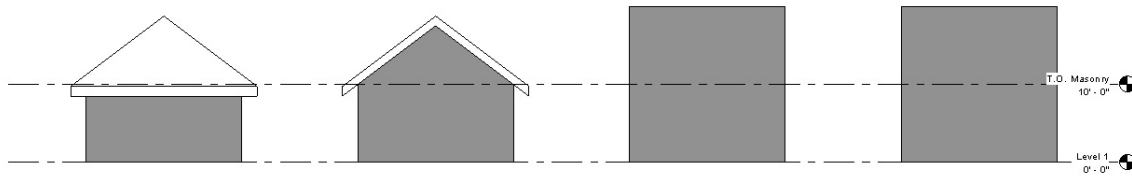

Figure 7-1.6 South elevation - gable roof
- Switch to the **South** elevation view (Figure 7-1.6).